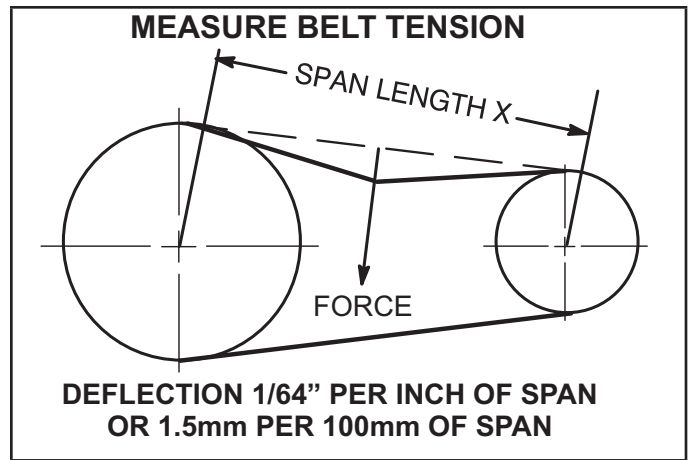

FIGURE 21
- 1 - Measure span length X. See FIGURE 21.
- 2 - Apply perpendicular force to center of span (X) with enough pressure to deflect belt $1/64$ " for every inch of span length or 1.5mm per 100mm of span length.